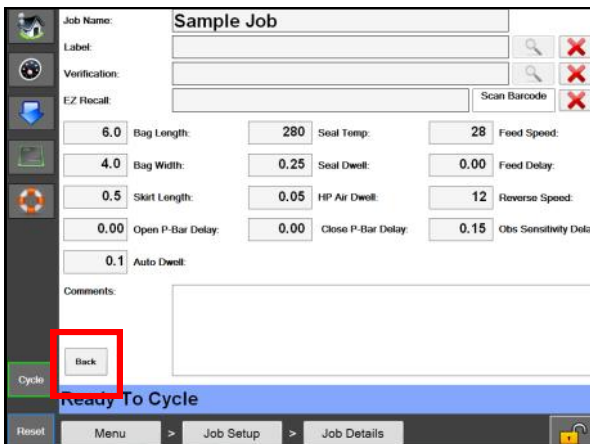

Figure 78B. Job Details Screen.
3. Edit the appropriate information in each box. **Figure 78B.**
4. Press the back button. **Figure 78B.**